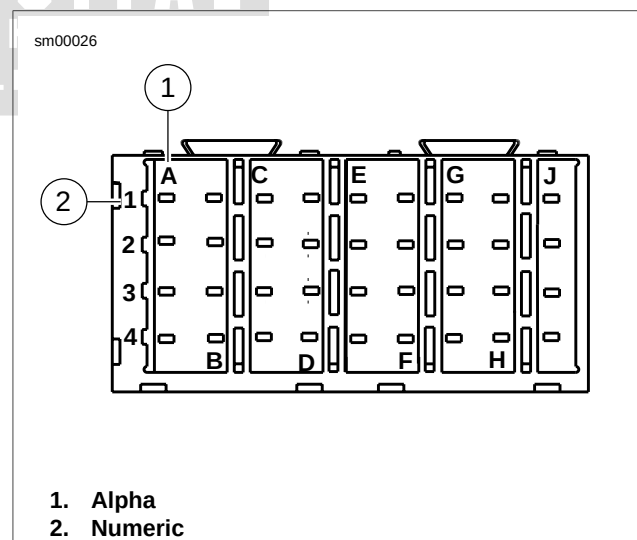

Figure A-39. Fuse Block: Coordinates (typical)
- See Figure A-39. The main fuse block terminal cavity is identified as alpha (1) and numeric (2) coordinates. Refer to the main harness wiring diagram for fuse block terminal cavity coordinates.